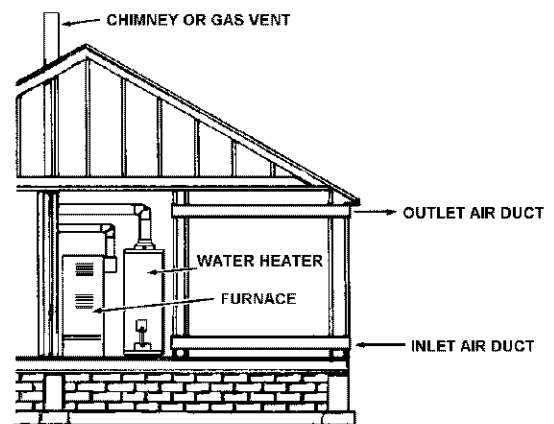

FIGURE 13.
- When communicating with the outdoors through horizontal ducts, each opening shall have a minimum free area of 1 square inch per 2,000 BTU per hour (11 cm2/kW) of total input rating of all equipment in the enclosure. See Figure 13.
- When ducts are used, they shall be of the same cross-sectional area as the free area of the openings to which they connect. The minimum short side dimension of rectangular air ducts shall not be less than 3 inches (76.2 mm). See Figure 13.